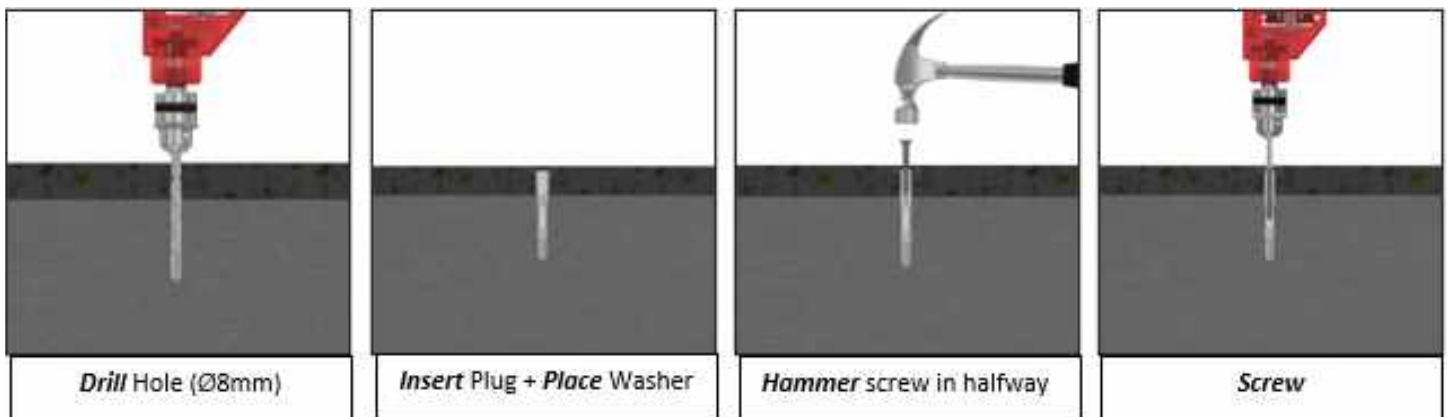

Figure 5: The EASYFIX recommended method of fixing
- Follow the EASYFIX recommended fixing method, as shown below in Figure 5.